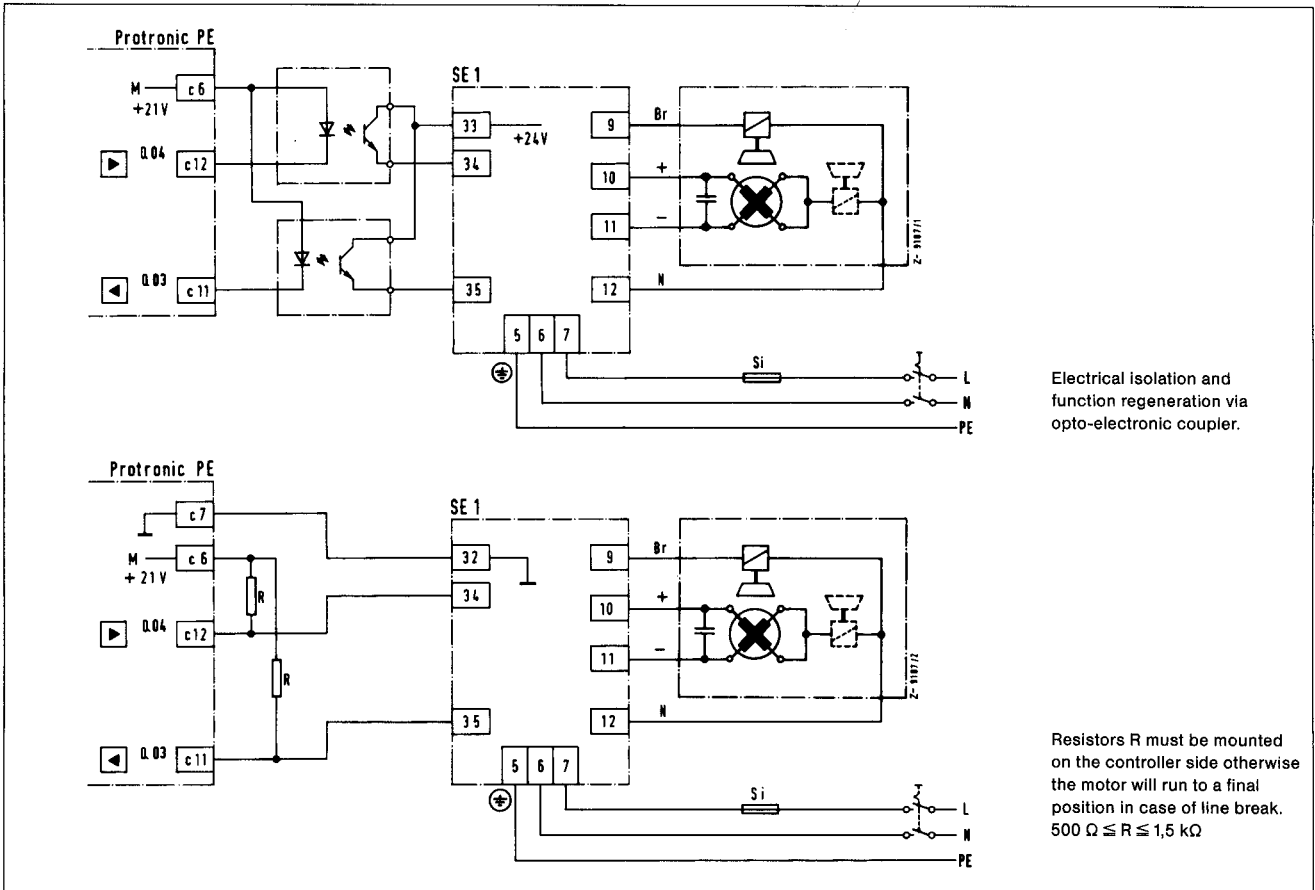

Fig. A18 Connection of a servomotor via SE 1.
- Fig. A18** Connecting a positioning motor via SE1